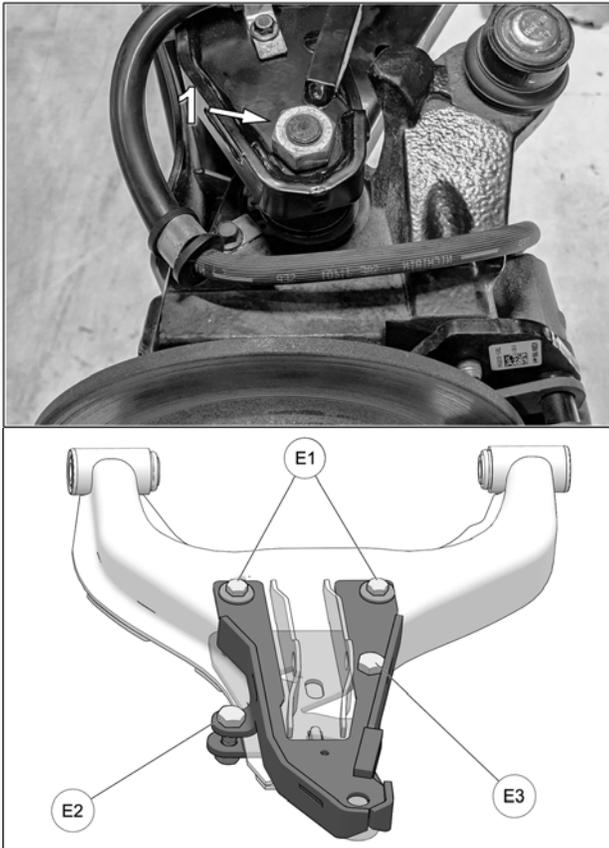

Fig. 19
9. Tighten Ball Joint nut (1); torque as per manufacturer's specification. Torque M10 bolts (E3-E2) to 50 N-m [37 lb-ft] and M8 bolts (E1) to 25 N-m [18 lb-ft]. See Fig. 19.